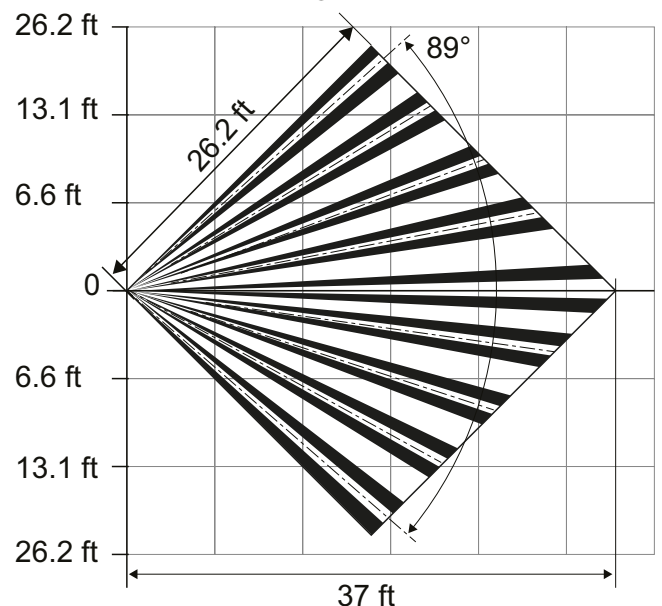

Figure 3 EN1263 detection coverage area
4. Noting the detection coverage in Figure 3, determine mounting location.